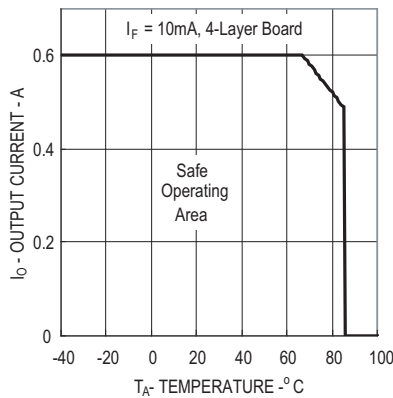

Figure 1. Maximum Output Current Rating vs Ambient Temperature (ASSR-1410-003E)
- For derating, refer to Figure 1, 2, 3 and 4.
Derating curves are shown in Figures 1, 2, 3 and 4, specifying the maximum output current allowable for a given ambient temperature. The maximum allowable output current and power dissipation are related by the expression  $R_{ss}=P_o(max)/(I_o(max))^2$  from which  $R_{ss}$  can be calculated. Staying within the safe area assures that the steady state MOSFET junction temperature remains less than  $125^{\circ}C$ .